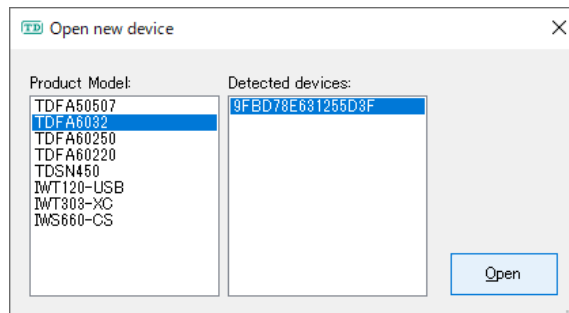

Figure 2 Open new device window
- In the “Open new device” window (Figure 2), select **TDFA6032** from the Product Model box. Choose the serial number of the Detected device displayed in the “Detected devices” box, and click the “Open” button.